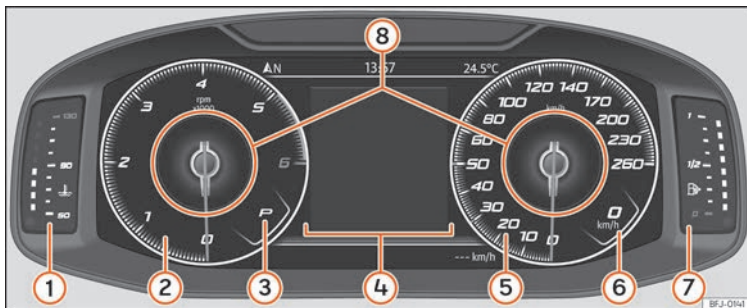

Fig.117 SEAT Digital Cockpit on the instrument panel (classic view).
»» **Fig. 117 ⑧**.
» **Fig. 117.**